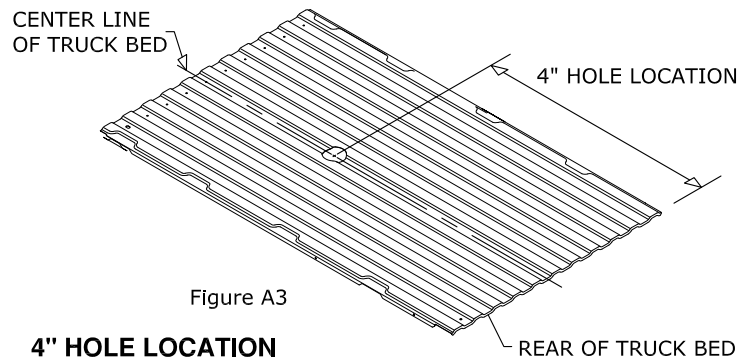

Figure A3
7. **Mark the 4" hole location.** Using a tape measure hooked over the rear edge of the bed (at tailgate end), measure the location for the hole as shown in Figure A3. Next, locate the center of the bed by measuring the distance between the wheel wells and dividing by two. The center of the hole will be at the intersection of the center of the bed and the first distance measured.